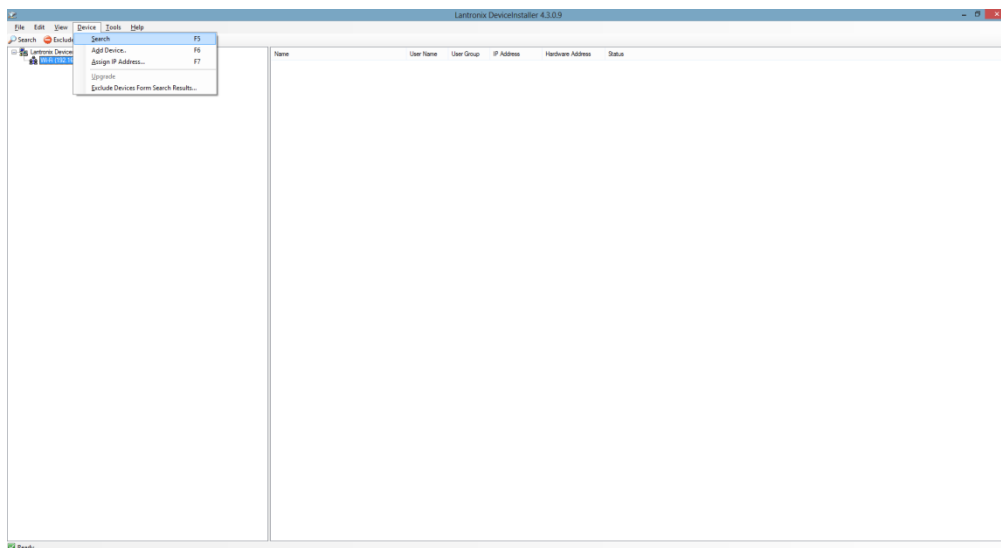

Fig 5.7.1
5.7 If the converter is not display, then in File menu, click “Device>Search” (as shown in Fig 5.7.1) to search for the Modbus TCP Converter.